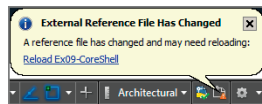

FIGURE 9.31 Balloon notification that an Xref has changed
9. A balloon appears in the drawing status bar informing you that an external reference has changed (see Figure 9.31). If no notification balloon appears, right-click the Xref that needs to be reloaded in the External References palette and choose **Reload**. Click the hyperlinked blue text in the balloon to reload the `Ex09-CoreShell` Xref. The changes made to the women's washroom are now visible in the tenant drawing.